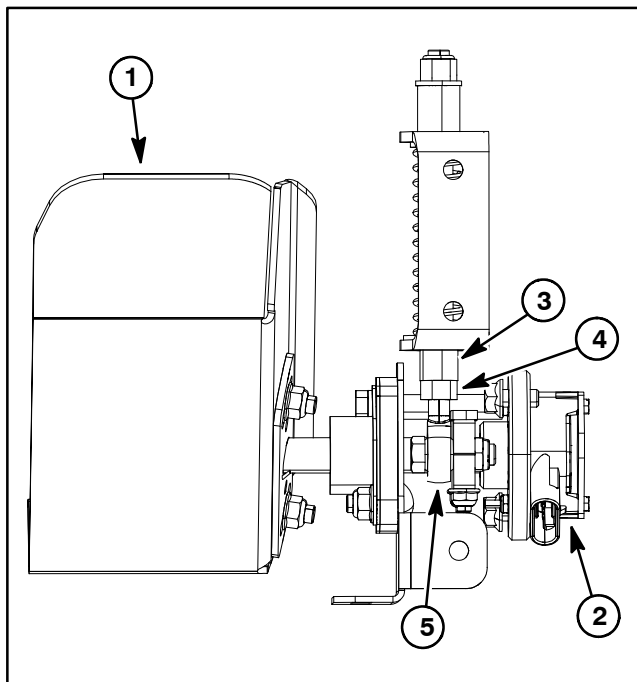

Figure 20
The traction pedal includes a neutral assembly that is used to adjust the traction neutral position (Fig. 20). Traction pedal adjustment may be necessary to make sure that traction pedal movement provides the correct full reverse and full forward positions for the traction pedal position sensor. The InfoCenter display can be used to check traction pedal adjustment using the following procedure.
5. If voltage range from full reverse to full forward is incorrect, adjustment of the spring shaft and rod end bearing is necessary (Fig. 20).